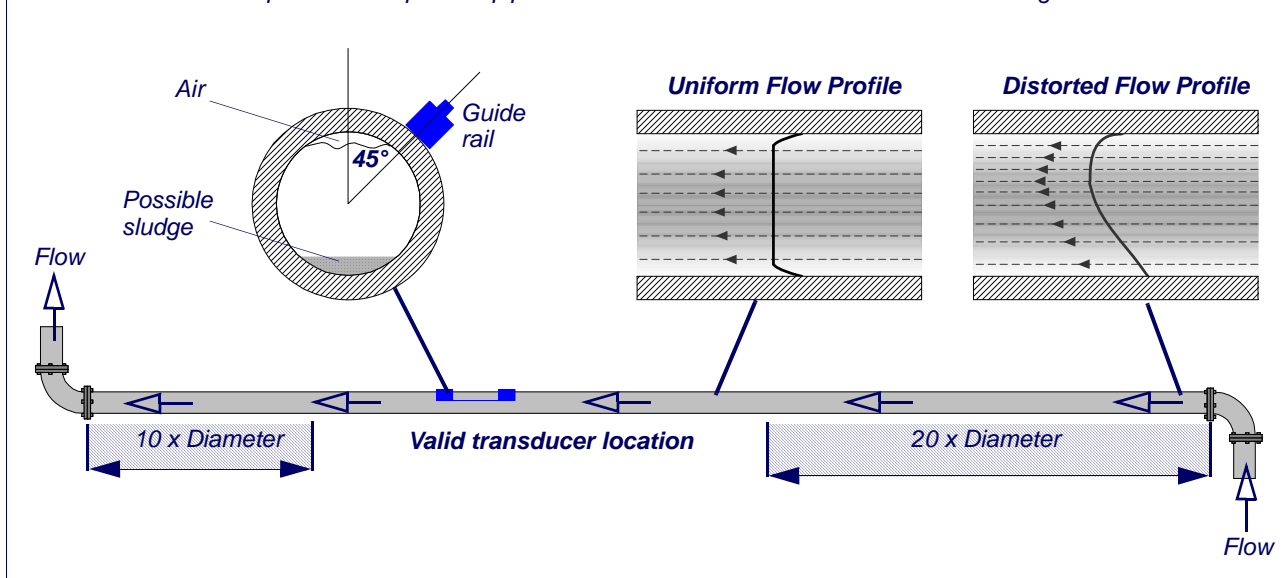

Figure 2.1 Locating the transducers
To obtain the most accurate results the condition of both the liquid and the pipe wall must be suitable to allow the ultrasound transmission along its predetermined path. It is important also that the liquid flows uniformly within the length of pipe being monitored and that the flow profile is not distorted by any upstream or downstream obstructions. This is best achieved by ensuring there is a straight length of pipe upstream of the transducers of at least 20 times the pipe diameter and 10 times the pipe diameter on the downstream side, as shown in Figure 2.1. Flow measurements can be made on shorter lengths of straight pipe, down to 10 diameters upstream and 5 diameters downstream, but when the transducers are positioned this close to any obstruction the resulting errors can be unpredictable.
1. Before you attach the transducers you should first ensure that the proposed location satisfies the distance requirements shown in Figure 2.1 otherwise the resulting accuracy of the flow readings may be affected.